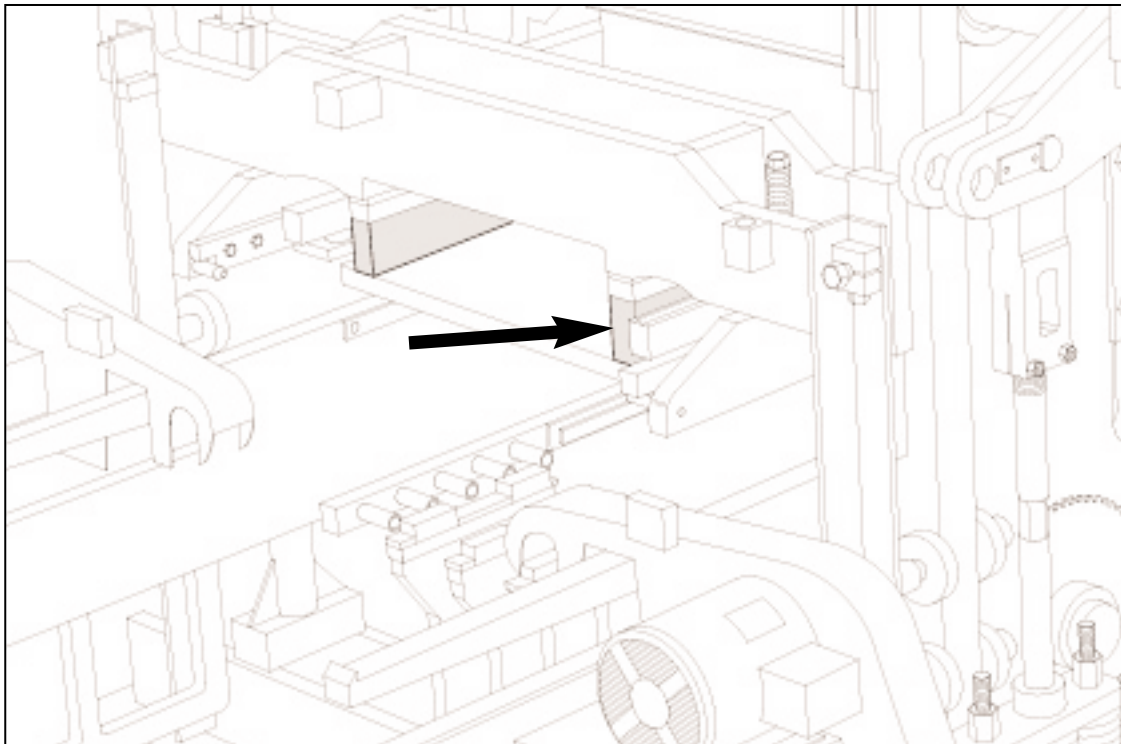

Figure 4.15 4 3/8" [111mm] BLOCKING UNDER STRIPPER HEAD FRAME.
- 4.1.8 The ULTRAPAC II is now ready for the installation of the mold assembly. Follow the directions for installing an attachment in section 5 of this manual. When installing the stripper head, insert **4 3/8" [111mm]** of blocking in addition to the **1 1/2" [38mm]** blocks already affixed to the stripper head frame (figure 4.15). The above blocking assumes a stripper head height of **14 3/16" [360 mm]** from the top of the head plate to the bottom of the shoes.